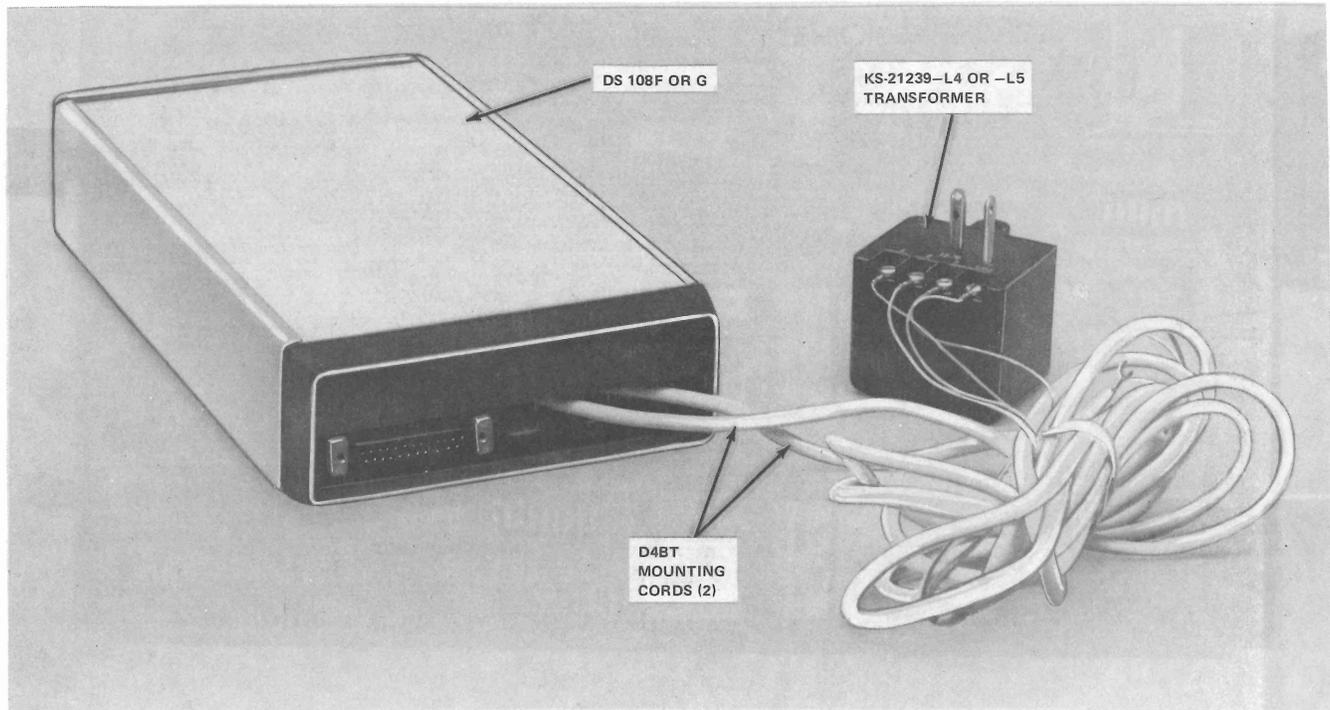

Fig. 5—DS 108F or G Rear View
2.04 The data set is equipped with a 25-pin customer interface connector to provide EIA interface to either CPE or DAS 830-type (Fig. 5). Telephone line interface is provided by locally furnished D4BT mounting cord (either 2- or 4-wire lines). A locally furnished D4BT mounting cord must also be provided between power transformer KS-21239-L4 or -L5 and each data set. Terminals are also provided for remote test switch connection.